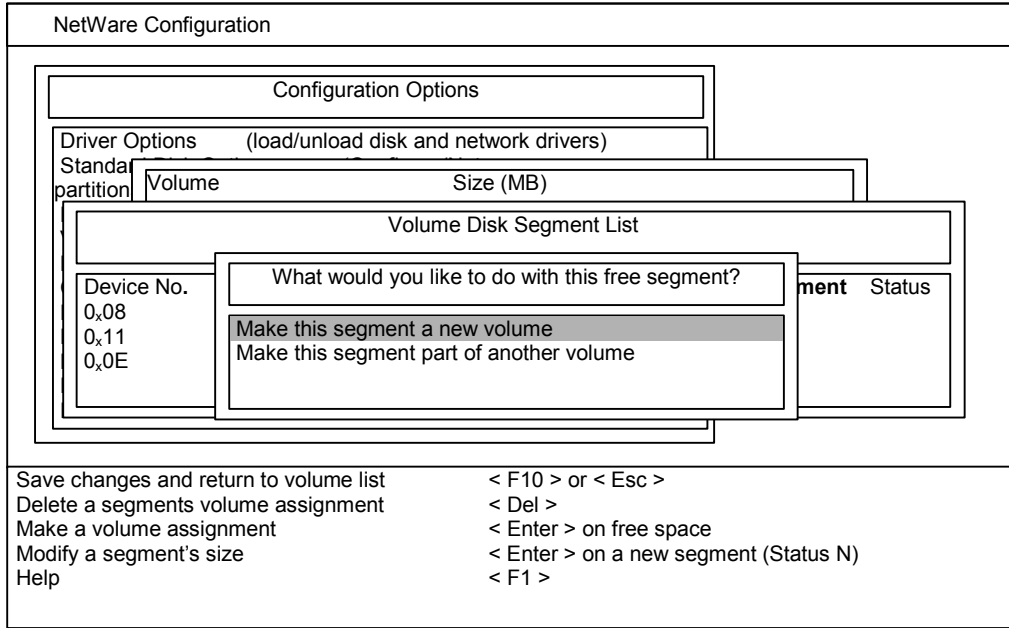

Figure 3.10 Creating a New Volume on the Selected Device
5. When the **What would you like to do with this free segment?** message appears (see Figure 3.10), select the desired option, and press **Enter**. If you selected **Make this segment part of another volume**, select the volume you want to add this segment to, and press **Enter**.